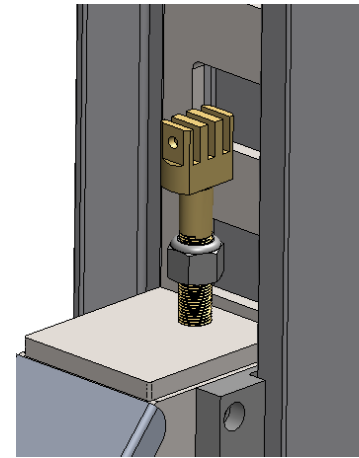

Figure 10
18. Loosen the top chain anchor 5/8" nut on the front lift side cross-beam and the rear lift side cross-beam as shown in *Figure 10*.